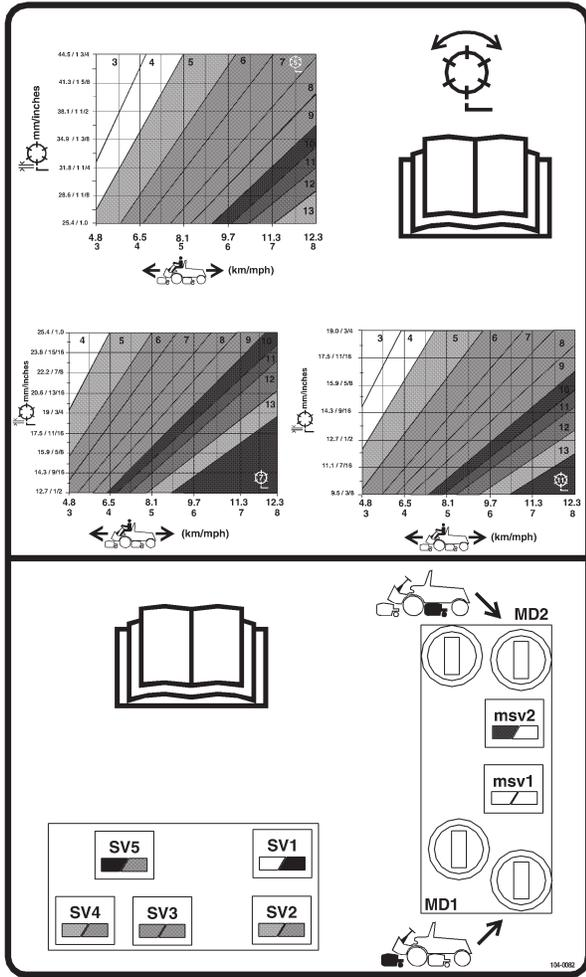

Figure 24
3. Using the appropriate graph (See graph figure 24) for 5, 7 or 11 blade cutting units, determine the proper reel speed setting.